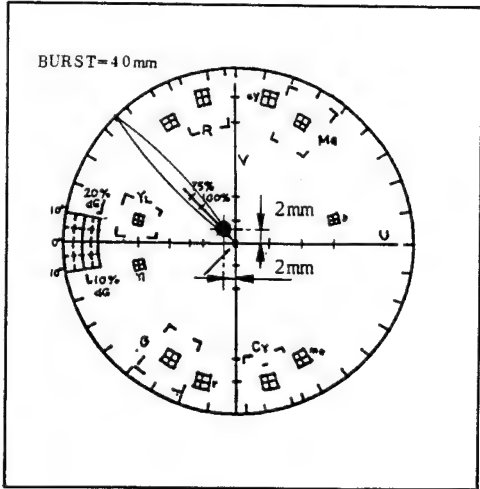

Fig. II-51
SPEC.	Set bright dot to position in Fig. II-51 ①.
SPEC.	Set bright dot to position in Fig. II-51 ②.
- 2) Set each bright dots as in Fig. II-51, respectively.